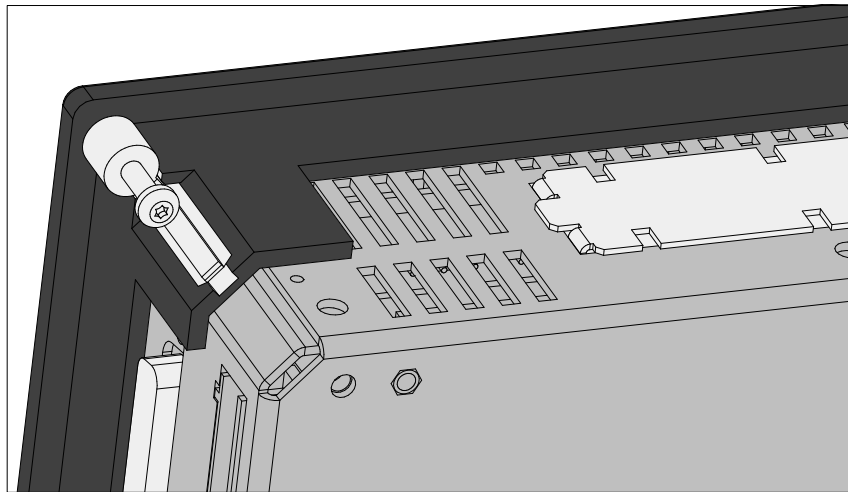

Figure 2-5 Fixing Bracket Engaged, with Screw
5.	Screw the 4 fixing screws enclosed with the C7 into the 4 fixing brackets enclosed (see Figure 2-5) (approximately 2 to 3 turns).